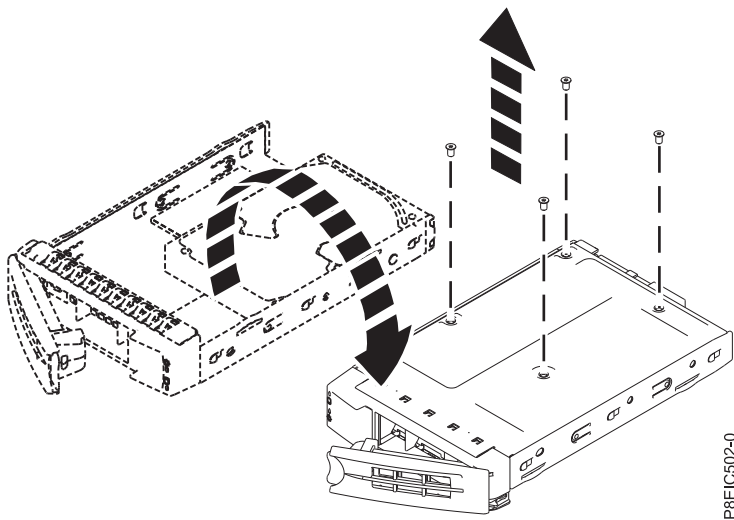

Figure 3. Removing the 2.5 inch drive from the tray
- For a 2.5 inch drive, turn the tray over. Unfasten the drive from the bottom of the tray by removing four screws, as shown in Figure 3.